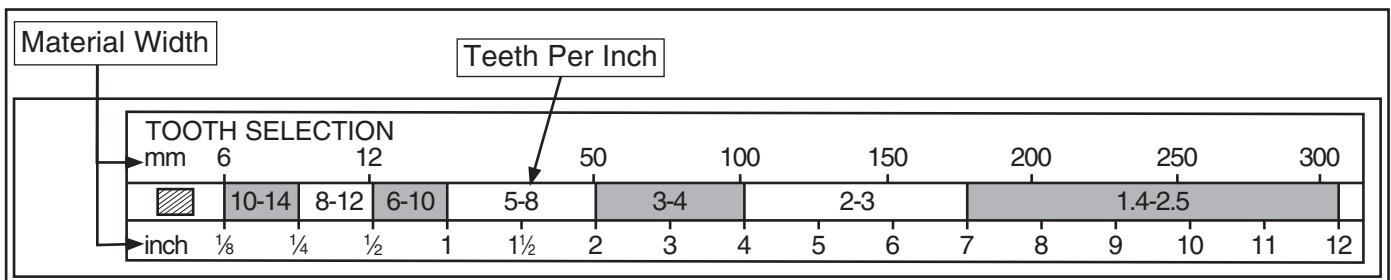

Figure 34. Material width and recommended teeth per inch.
As a general rule, choose blades that will have at least three teeth in the material at all times. Use fine pitched blades on harder metals and coarse pitched blades on softer metals. When selecting blades, refer to **Figures 34–35** on **Pages 27–28** for recommended blade tooth (TPI) and speed (FPM) based on the workpiece material.
The chart in **Figure 34** is a basic starting point for choosing blade type based on teeth per inch (TPI) for variable tooth pitch blades and for standard raker type bi-metal blades/HSS blades. As a general rule, there should be at least 3 teeth in contact with the workpiece at all times. However, for exact specifications of bandsaw blades, contact the blade manufacturer.
2. Refer to "Material Width" row of blade selection chart in **Figure 34** and read across to find workpiece thickness you need to cut.